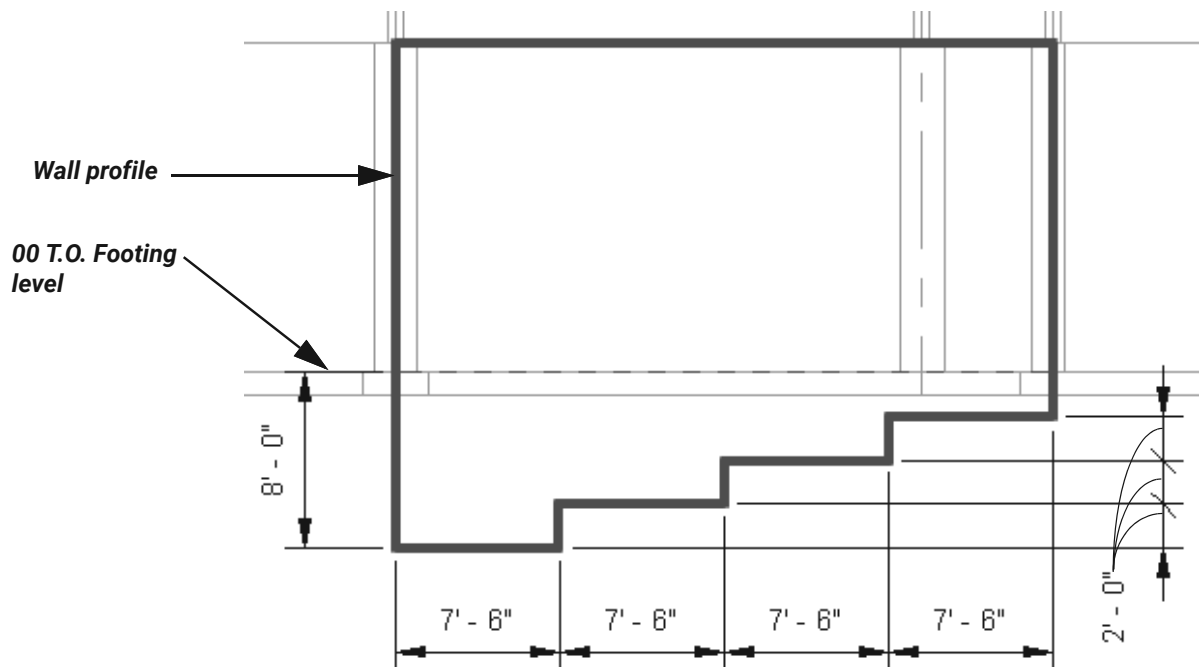

Figure 7-61
5. Using the dimensions shown in Figure 7-61, use the Draw and Modify tools to add the stepped profile shown in Figure 7-61. The dimensions are for information only.